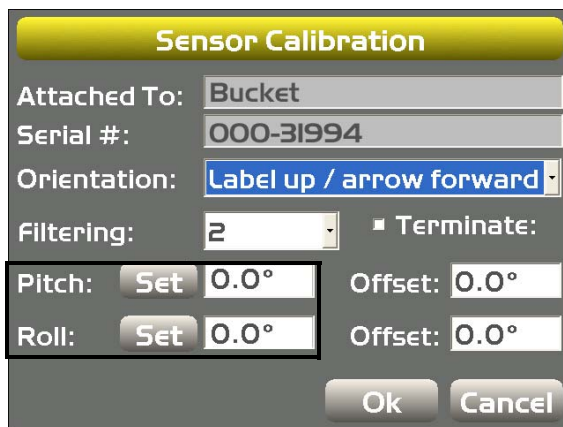

Figure 51: Set Pitch and Roll to Zero
10. Tap **Set** next to **Roll**, enter the **Roll** value as 0.0°, and tap **Set** again (Figure 51).